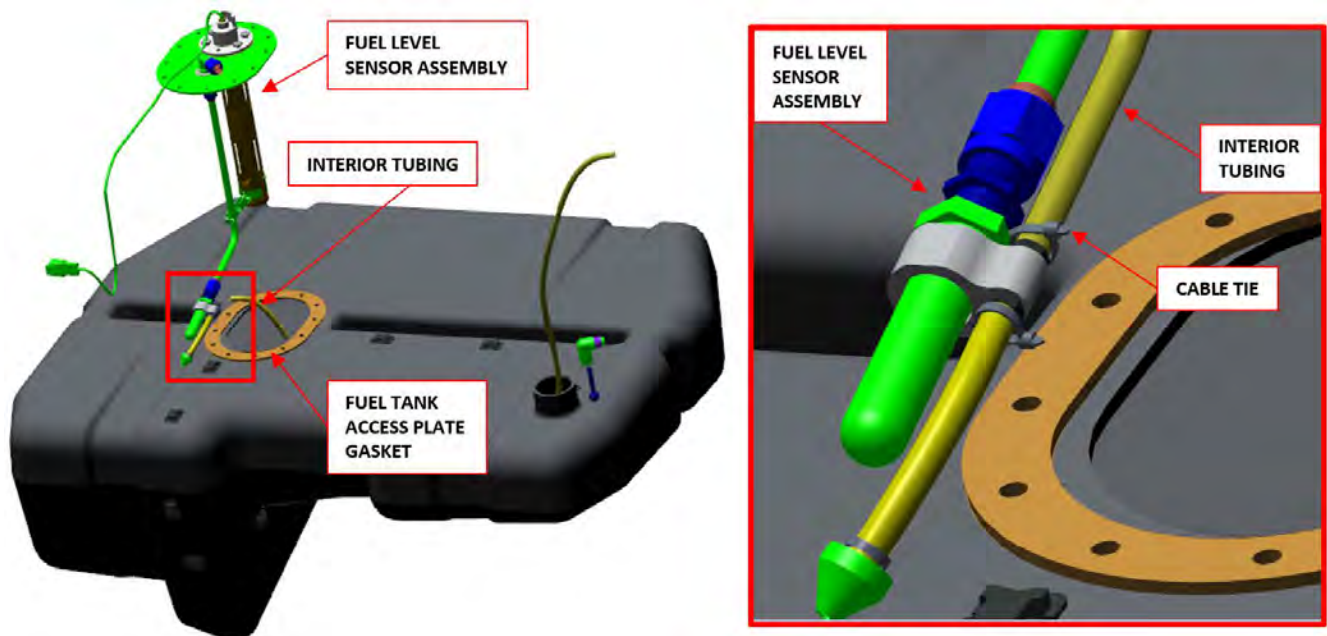

FIGURE 14-91
- c. Remove the cable tie and interior tubing from the Fuel Level Sensor assembly (Figure 14-91).
- c. Pull end of interior tubing from inside the Fuel Tank and secure to Fuel Level Sensor Assembly using 18lb CABLE-TIE. (See Figure 14-91.)